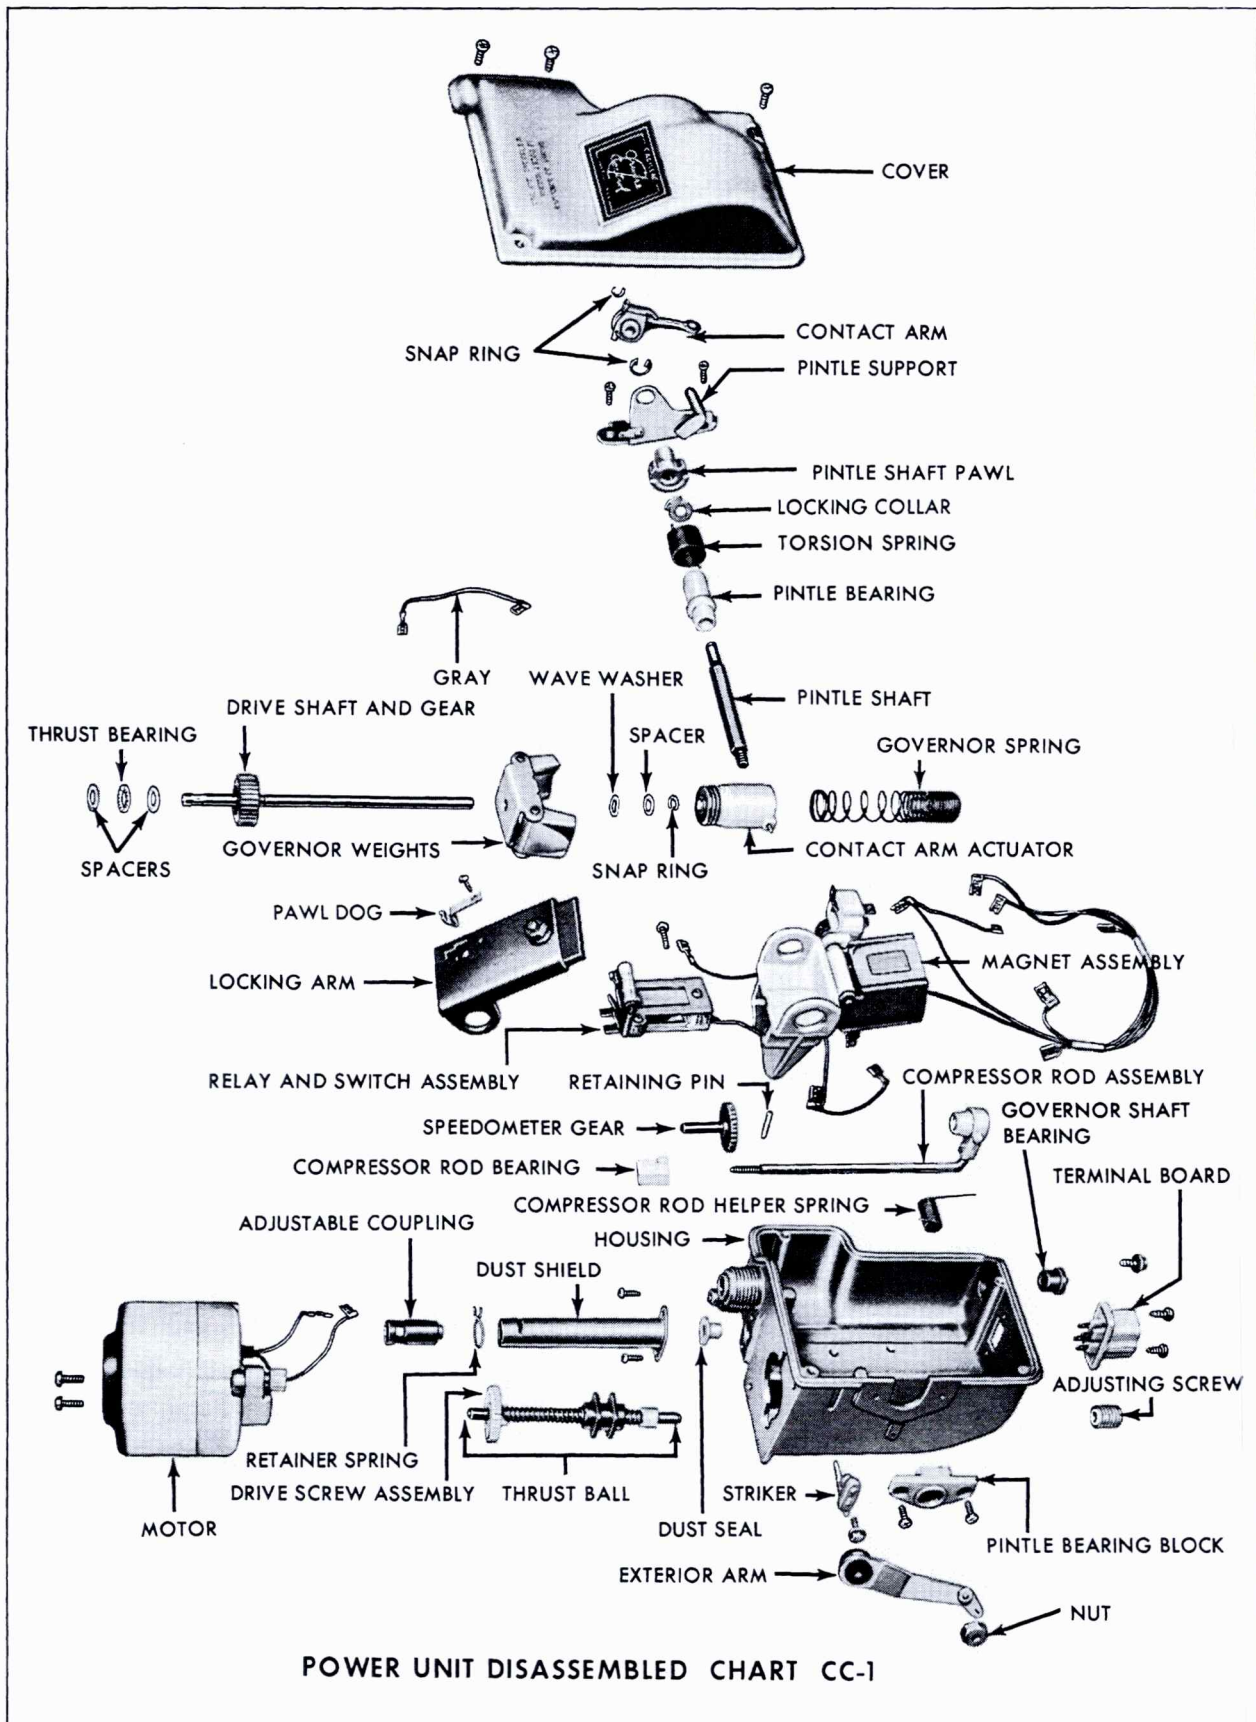

Fig. 15-18 Power Unit Disassembled (Exc. 693)
29. Power Unit Disassembly and Assembly (Fig. 15-18)